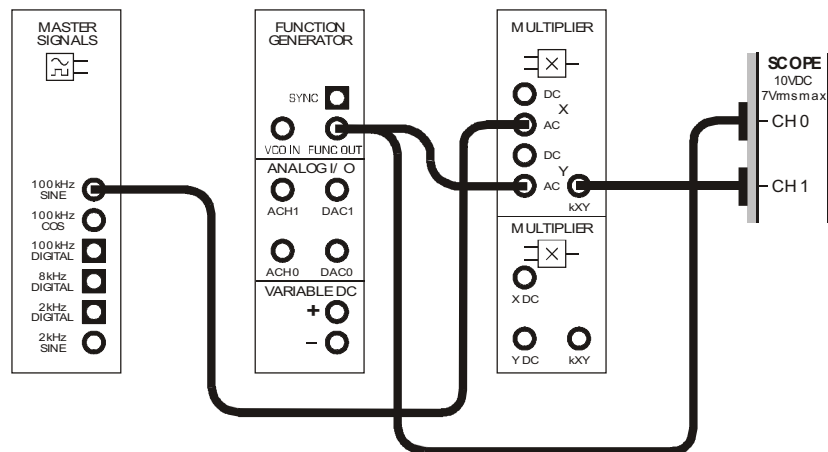

Figure 7
58. Connect the set-up shown in Figure 7 below.